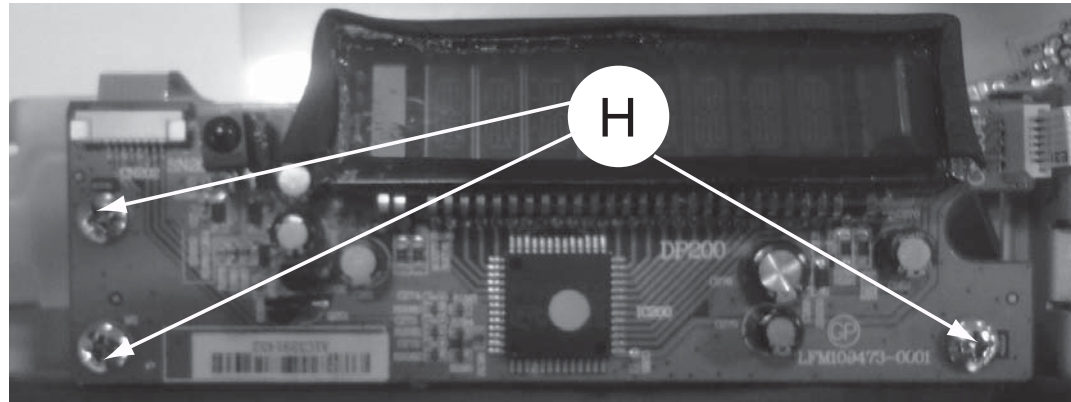

Figure 8
- 2) Loosen 4 screws "H" to remove the VFD as shown in figure 8.